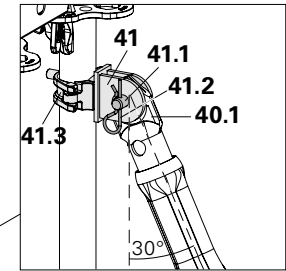

Fig. A4.01a
1. Secure coupling (41.3) of the Brace Connector (41) to the Standard of the shoring tower, and align. (Fig. A4.01a)
2. Insert lug (40.1) on the Push-Pull Prop (40) between the lugs of the Brace Connector.
3. Fix Push-Pull Prop with Bolts (41.1) and Cotter Pins (41.2) to the Brace Connector. (Fig. A4.01a)